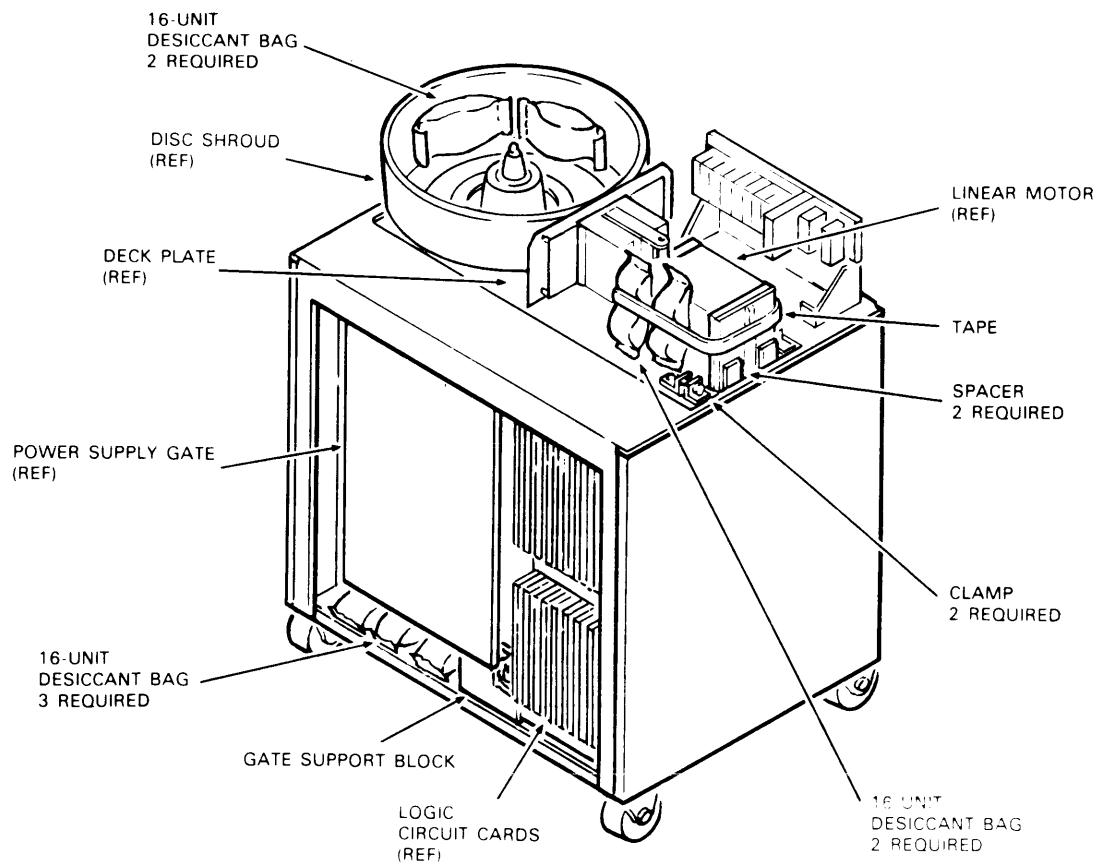

FIGURE 3-2. DRIVE UNPACKING MATERIALS
10. Remove the strip of tape joining the linear motor and head carriage and the two 16-unit dessicant bags (see Figure 3-2).
11. Loosen and remove the two deck plate clamps. (Refer to Figure 3-2.)
12. Remove the two masonite spacers between the drive frame and deck plate at the magnet end. (Refer to Figure 3-2.)
4. Insert two masonite spacers between the frame and deck plate at the magnet end. (Refer to Figure 3-2.)
5. Install two deck plate clamps over the frame end and attach to the predrilled holes in the deck plate. Tighten the clamps until the deck plate is drawn up to the masonite spacers. (Refer to Figure 3-2.)